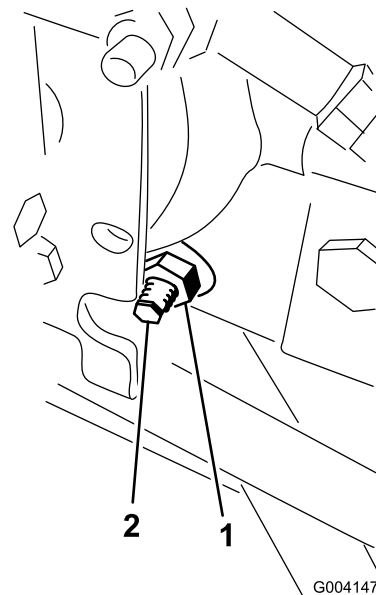

Figure 60
3. On the right side of the hydrostat, loosen the locknut on the traction adjustment cam (Figure 60).